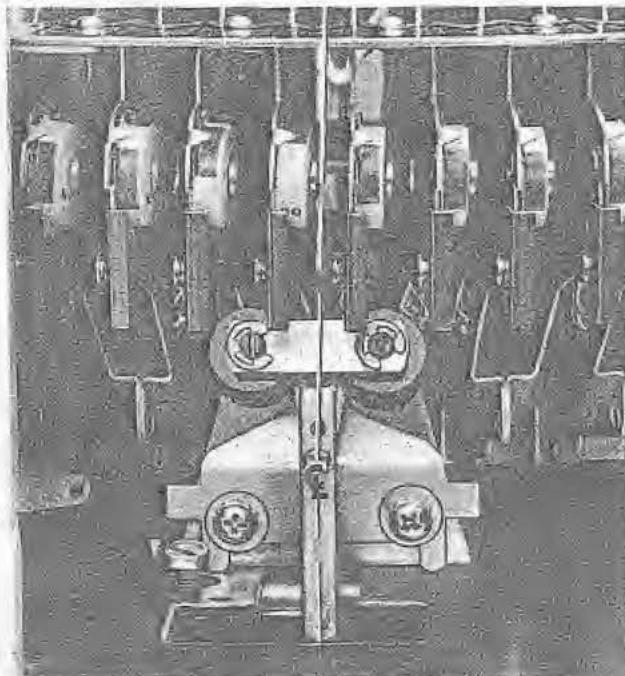
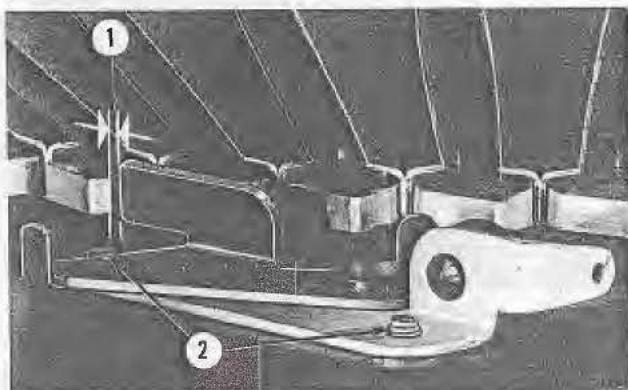
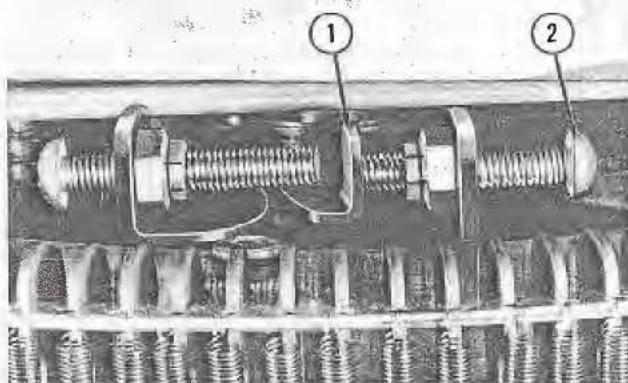
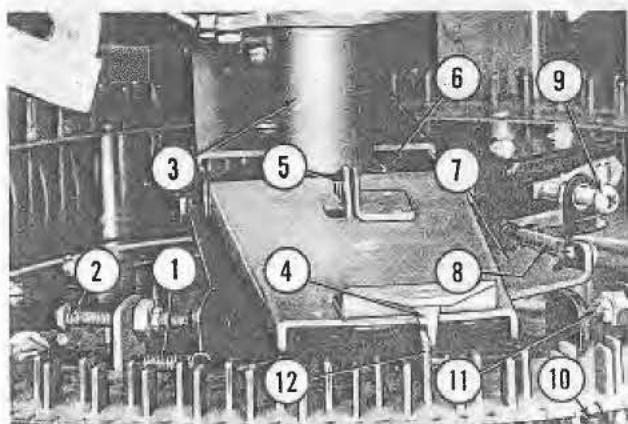

Fig. 54. CENTER LINE FOR BACK STOP PAWL SETTING
Fig. 58. BACK STOP PAWL OVER-TRAVEL
Fig. 59. PLUNGER RELEASE, ACTUATING SCREW ADJUSTMENT
Fig. 64. STOP SCREW ADJUSTMENT, SELECTOR CRANK
(1) Slightly loosen the two mounting screws (Fig. 58, Item 2).
(2) Turn the record carrier slowly until the center line of one of the record compartments is in accurate alignment with the left hand record lift arm as shown in Figure 54. Carefully maintain this condition of alignment and set the left hand back stop pawl to engage with the adjacent tooth of the index wheel. The depth of engagement should be $1/32"$ to $1/16"$ as shown in Figure 58. Tighten the mounting screws. Alignment of the record compartments with the record lift arms must be kept within a tolerance of $1/32"$.
(5) Adjust the actuating screw (Fig. 59, Item 2) so that the plunger latch releases the reversing switch plunger when the correct tooth, as selected, has overtraveled the back stop pawl a distance of $1/16"$ to $3/32"$ (Fig. 58, Item 1).
(1) Proceed as on the 2404 by turning the service switch OFF, release an odd number (inner) selector pin, rotate the record carrier until the selector crank arm engages the released pin (Fig. 64, Items 4 & 12). As viewed from the rear, manually turn the changer motor shaft clockwise until the reversing relay is heard to operate, at which point the right hand back stop pawl at the rear of the chassis mounting plate should have just dropped into engagement with a tooth on the index wheel. Allow overtravel of $1/32"$ maximum (Fig. 58, Item
The stop screw serves to prevent momentum from driving the record carrier into the wrong selection. Check the setting of the stop screw (Fig. 64, Item 11) by releasing an inner pin and rotating the record carrier manually until the reverse relay is heard to operate. Continue by turning the changer motor shaft clockwise until the stop screw (Item 8) is resting against the tab of the stop bracket. At this point there should be $1/16"$ to $3/32"$ maximum overtravel between the back stop pawl and the tooth of the index wheel (Fig. 58, Item 1).